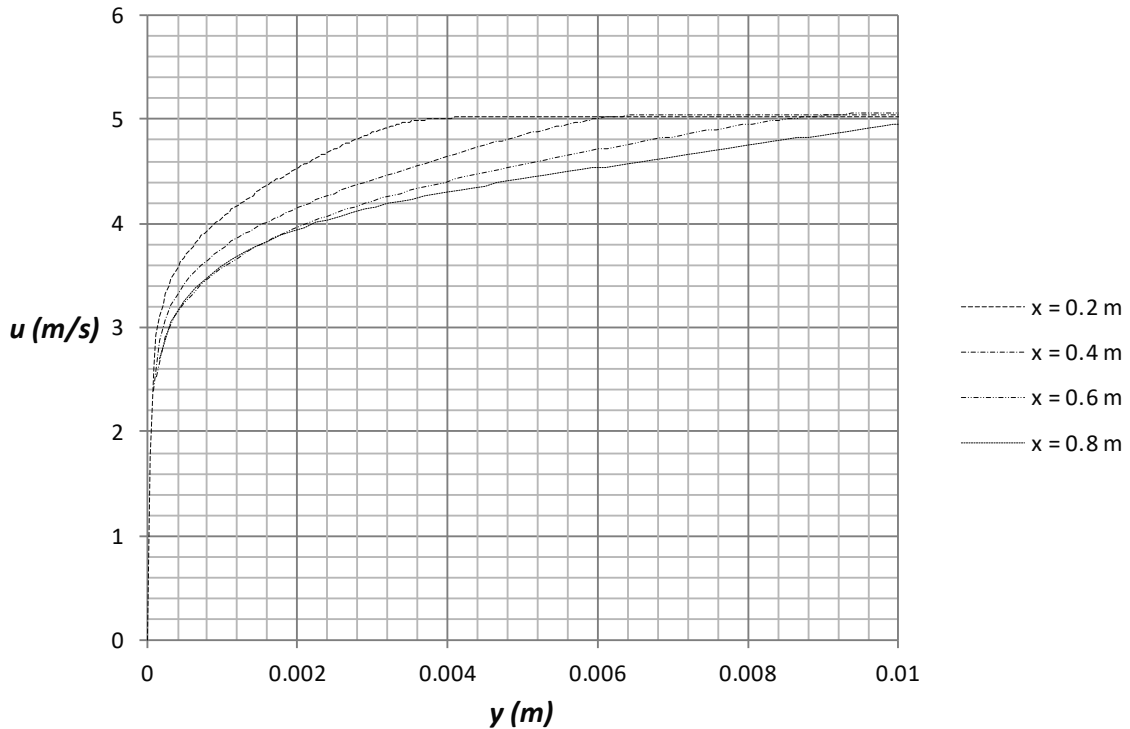

Figure 2.30a) Comparison of turbulent boundary layers at $Re_x = 10^6 - 4.04 \cdot 10^6$
30. Place the file “**graph 2.30a)**” on the desktop. Repeat step 24 and choose the sketch $x = 0.2, 0.4, 0.6, 0.8$ m and check the box for **Velocity (X)**. Check boxes for **Interpolate** and **Display Boundary Layer** under **Options**. Rename the xy -plot to **Turbulent Velocity Boundary Layer**. An Excel file will open with a graph of the streamwise velocity component versus the wall-normal coordinate, see figure 2.30a). We see that the boundary layer thickness is much higher than the corresponding laminar flow case. This is related to higher Reynolds number at the same streamwise positions as in the laminar case. The higher Reynolds numbers are due to the selection of water as the fluid instead of air that has a much higher value of kinematic viscosity than water.
As an example, the turbulent boundary layer thickness from figure 2.30a) is 3.49 mm at $x = 0.2$ m which can be compared with a value of 4.45 mm from equation (2.4), see table 2.2.
- 2.6 Determine the displacement thickness, momentum thickness and shape factor for the turbulent boundary layers in figure 2.30a) and determine the percent differences as compared with empirical data.